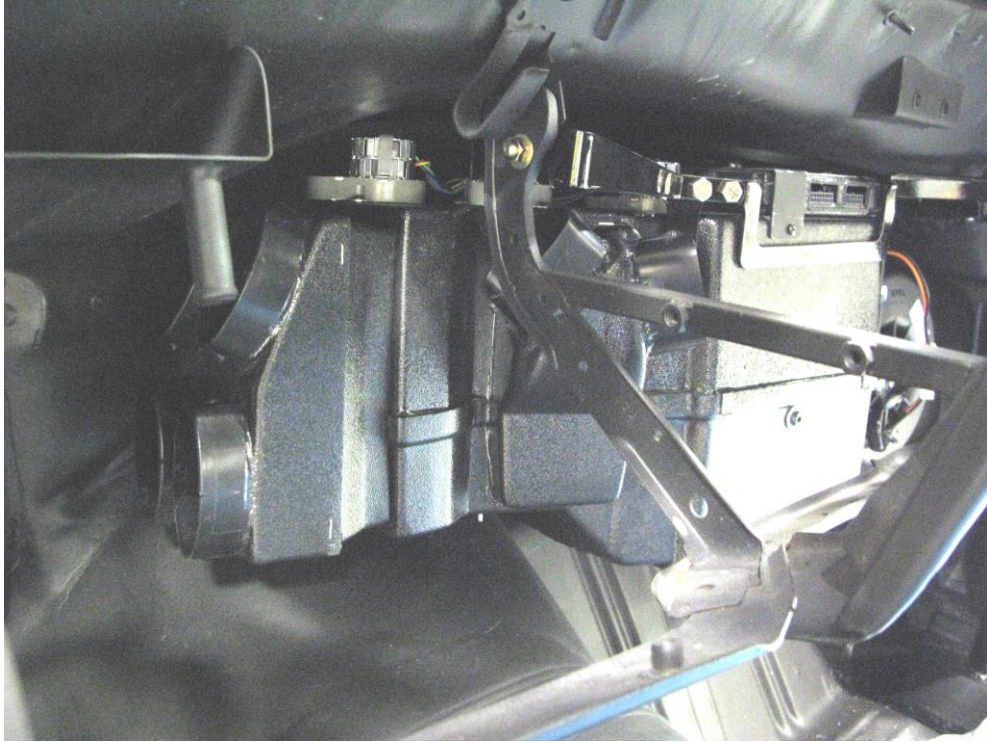

Figure 6 - Unit Installed
11. Figure 6 below shows the unit installed in the vehicle.